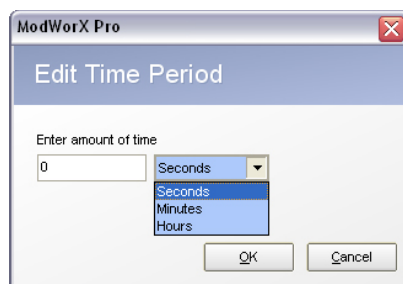

Figure 7.9
3. Adjust the output period by clicking the **Edit** button (Figure 7.9). The output period can be entered in terms of seconds, minutes or hours.